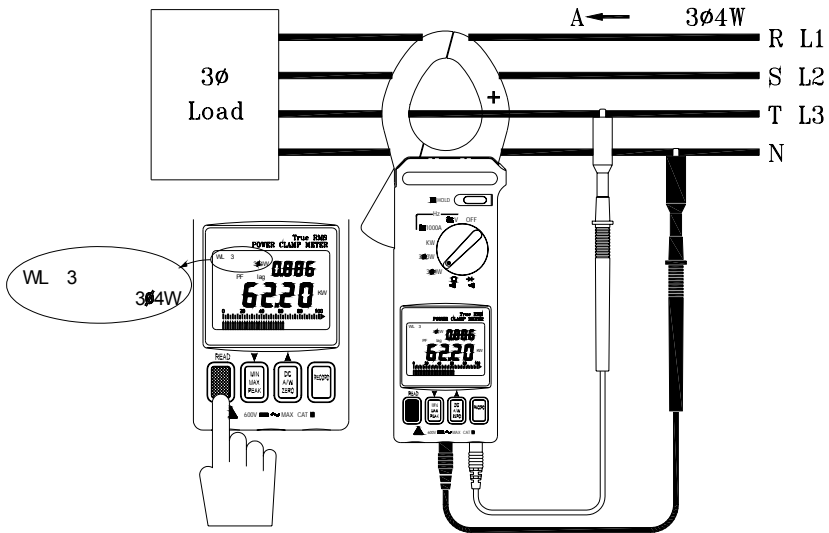

Figure 9
6. The meter will process these three sets of data (refer to figure 9) and display the 3 ϕ 4W power measurement (**WL123** will be displayed). The 3 ϕ 4W measurement will then be stored in memory. The following equations are provided for your information.